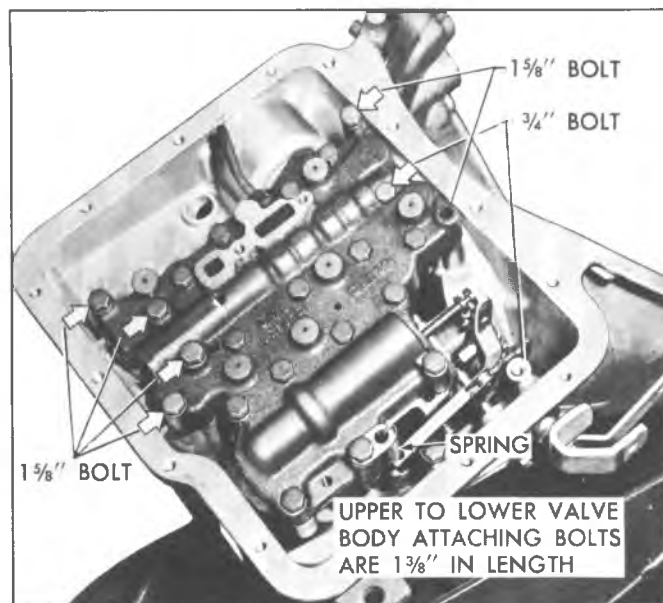

Fig. 11PG--Valve Body Removal
23. Remove the remaining valve body-to-transmission case attaching bolts (indicated by arrows in Figure 11PG) and carefully lift out the valve body and gasket, disengaging the servo apply tube from the transmission case as the valve body is removed.